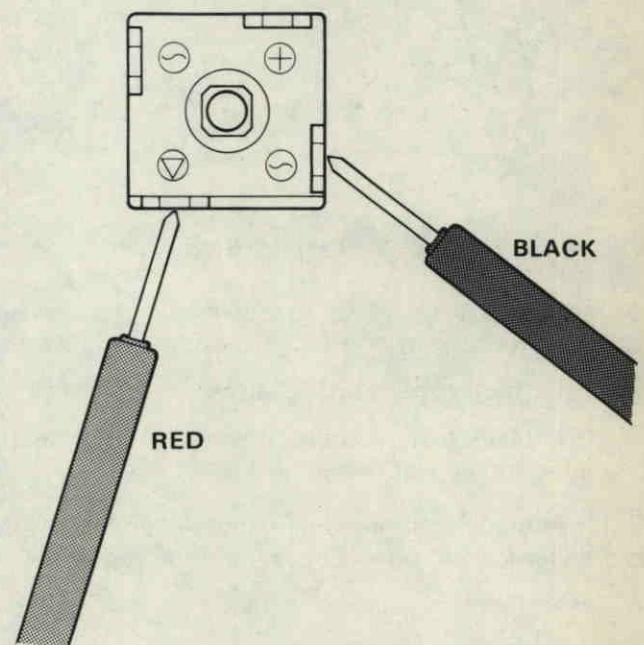

Figure 21. Test #4. Step 3.
3. Connect red tester lead to negative (∇) terminal, black tester lead to one "AC" (\sim) terminal. Figure 21.